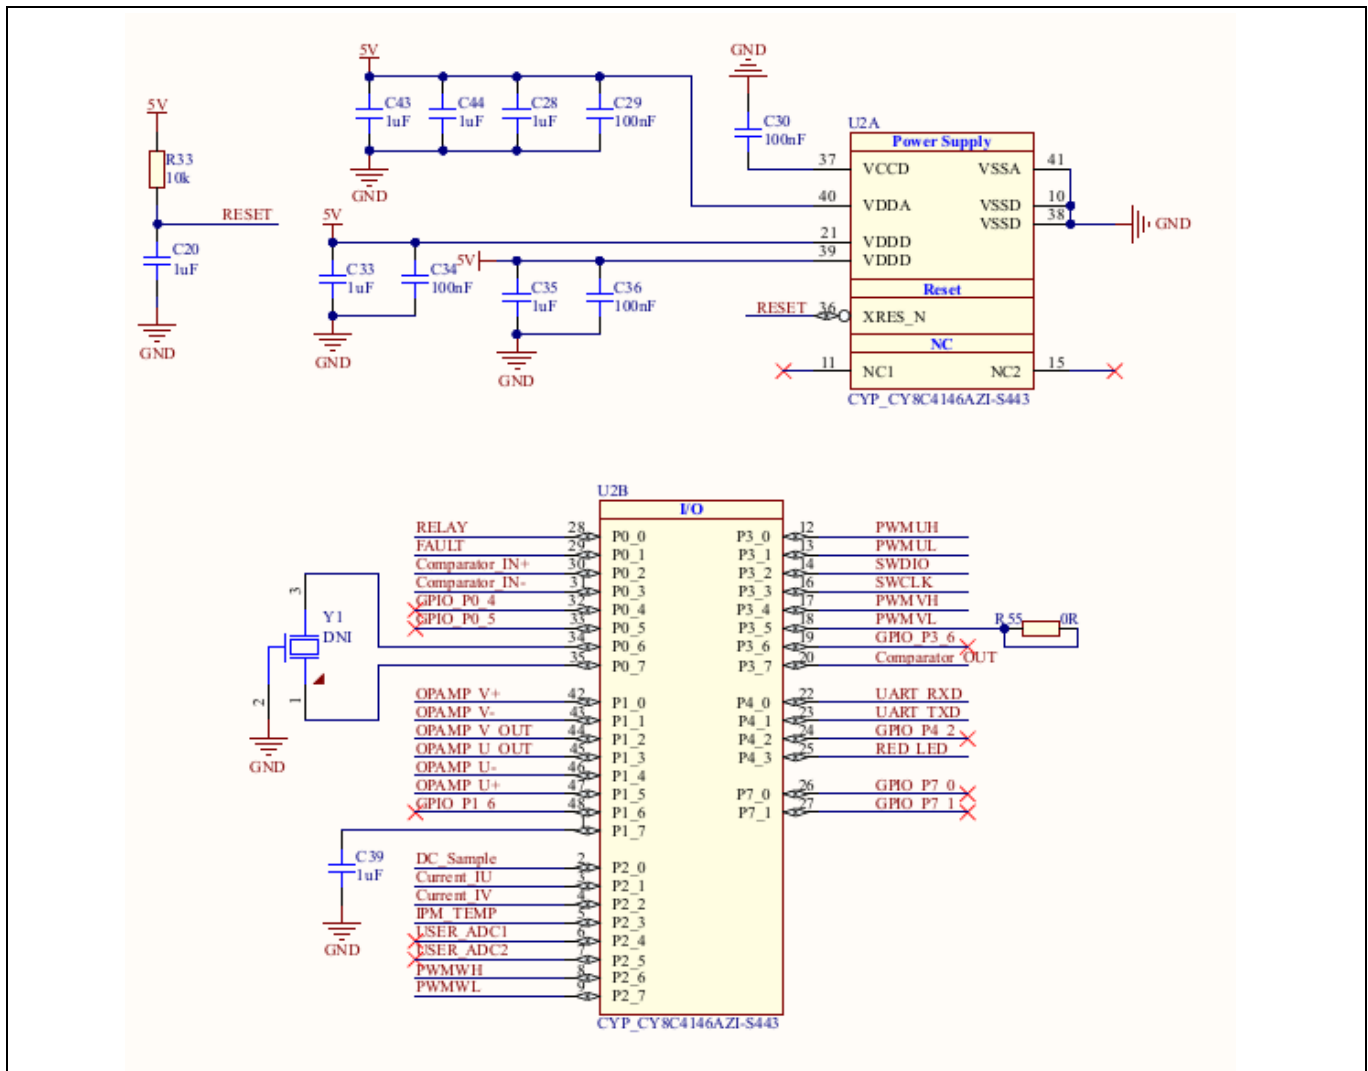

Figure 5. Schematic of PSoC4 MCU
Figure 5 shows the schematic of this chip.
3. For the minimum system, please refer to the schematic diagram in Figure 5.